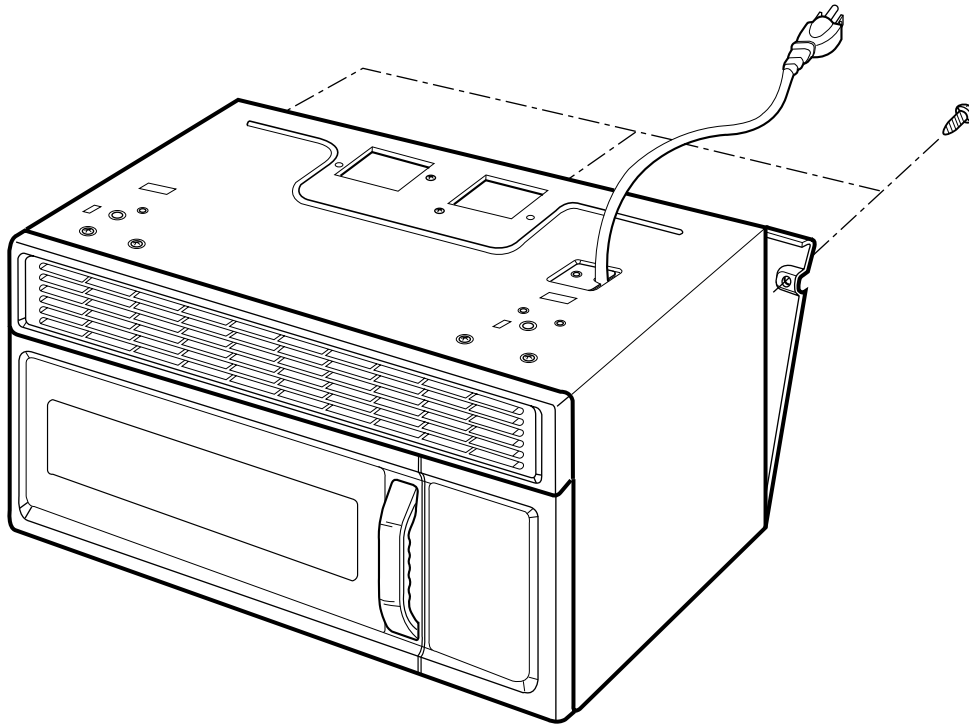

Figure 26
- (1) Remove the mounting plate by removing three screws securing it to the back plate. (See Figure 26)